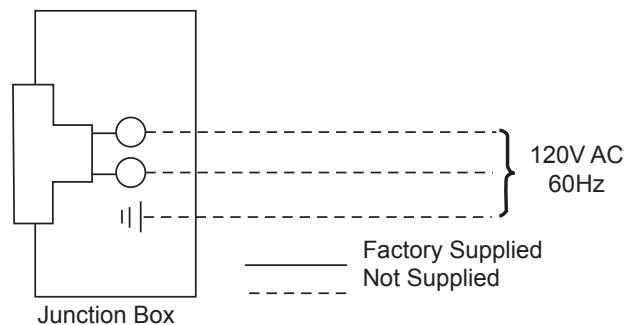

Figure 53 -
3. The junction box cover has a factory installed "romex" style strain relief connector. After connecting the wires, route the wire leads through this connector. Refer to the wiring diagram in *Figure 53*.